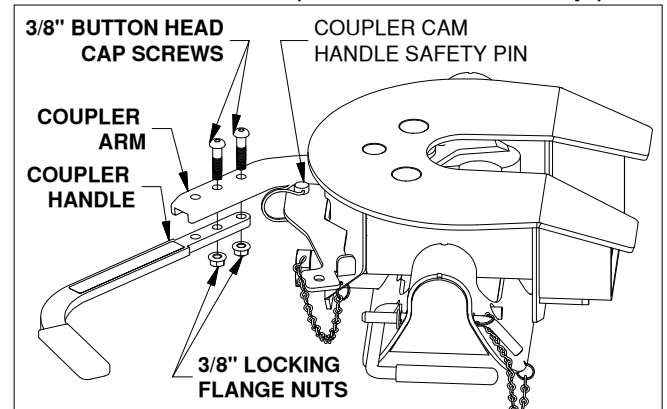

Figure D1: View looking down at side of coupler head.
- Locate the two 3/8" x 1-1/4" button head cap screws and the two 3/8" flanged lock nuts provided in a bolt bag. Pull out the coupler arm and pin it with the safety locking pin near the base of the arm as shown in Figure D1.
- Using the button cap screws and the lock nuts attach the coupler handle to the arm and tighten, see Figure D1. Pull out the coupler cam handle safety pin.